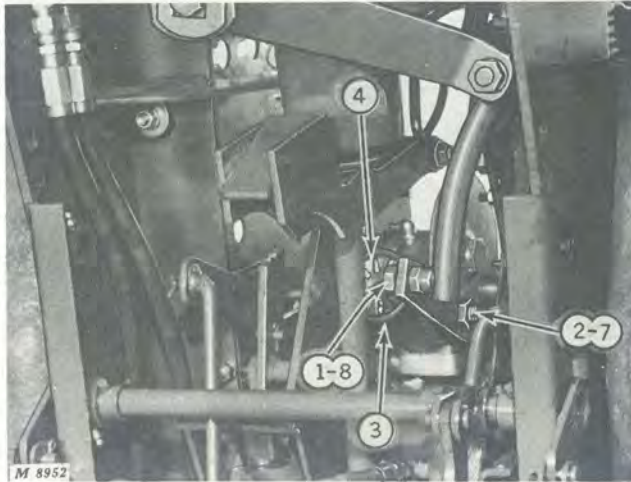

Fig. 22-Steering Gear (Viewed from Below Tractor)
Refer to Figures 22 and 23 and adjust steering gear as explained below to correct loose steering and steering wheel end play.
2. Loosen jam nut and stud two or three turns, Figure 22.